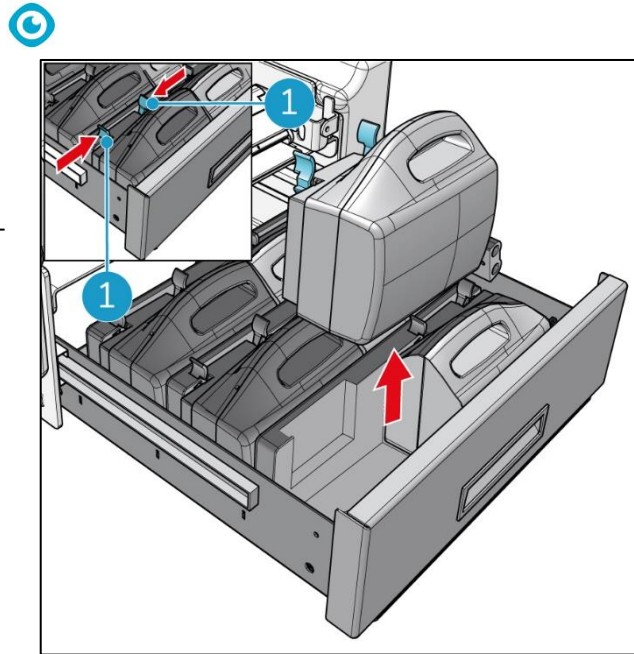

Figure 59
4. Press the clips (Figure 59, pos 1) of each i-power® 14 battery pack slightly towards each other and lift it out.